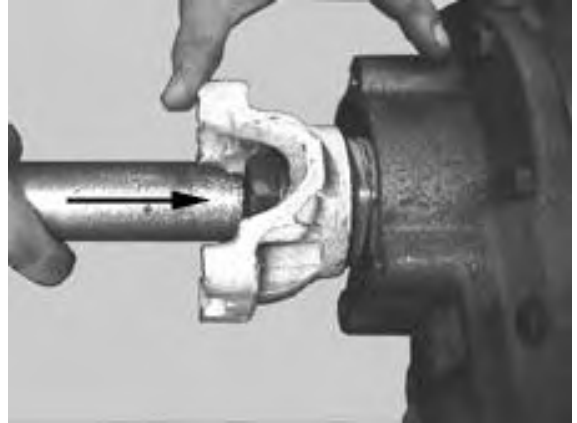

Fig. 74
30. Tap rear output shaft toward the front of the case to seat the bearing against the front declutch housing. See Fig. 74.